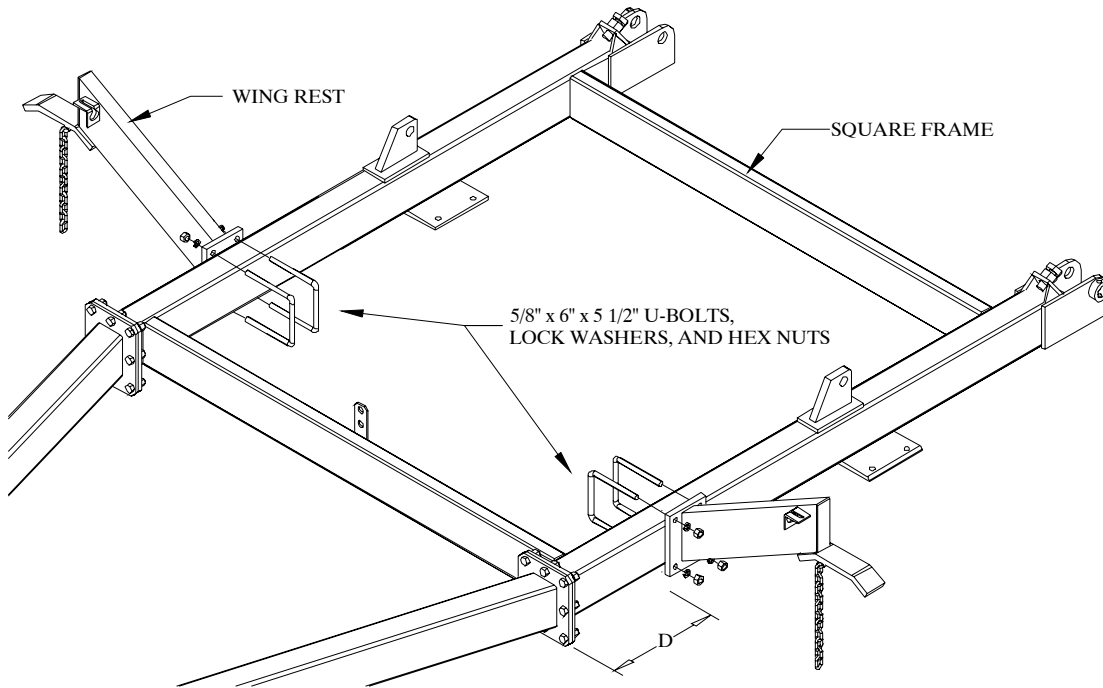

Figure 4
6. Attach the wing rests to the square frame. Refer to Figure 4. Use four 5/8" x 6" x 5 1/2" U-bolts, lock washers, and hex nuts. Do *not* tighten yet. The distance ("D" in Figure 4.) from square frame splice plate to the wing rest mounting plate varies with the model: